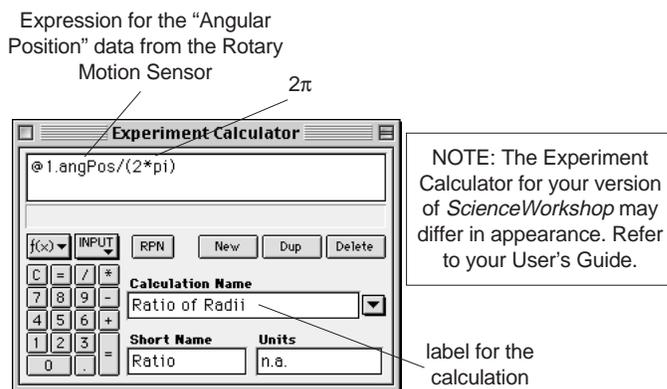

Figure 9: Calculation for Ratio of Radii
4. In the program, use the built-in Calculator to create a calculation. Base the calculation on the "Angular Position" measurement from the Rotary Motion Sensor. In the calculation, divide "Angular Position" by 2π , where π is approximately 3.1416... Label your calculation "Ratio of Radii" (Fig. 9).